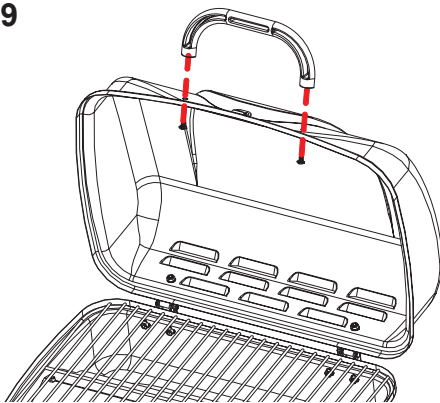

Fig. 9
*Locate:* Grill Lid Handle, (2) M5x10 bolts
*Procedure:* Attach the Grill Lid Handle to the Lid using (2) M5x10 bolts as shown in Fig. 9.